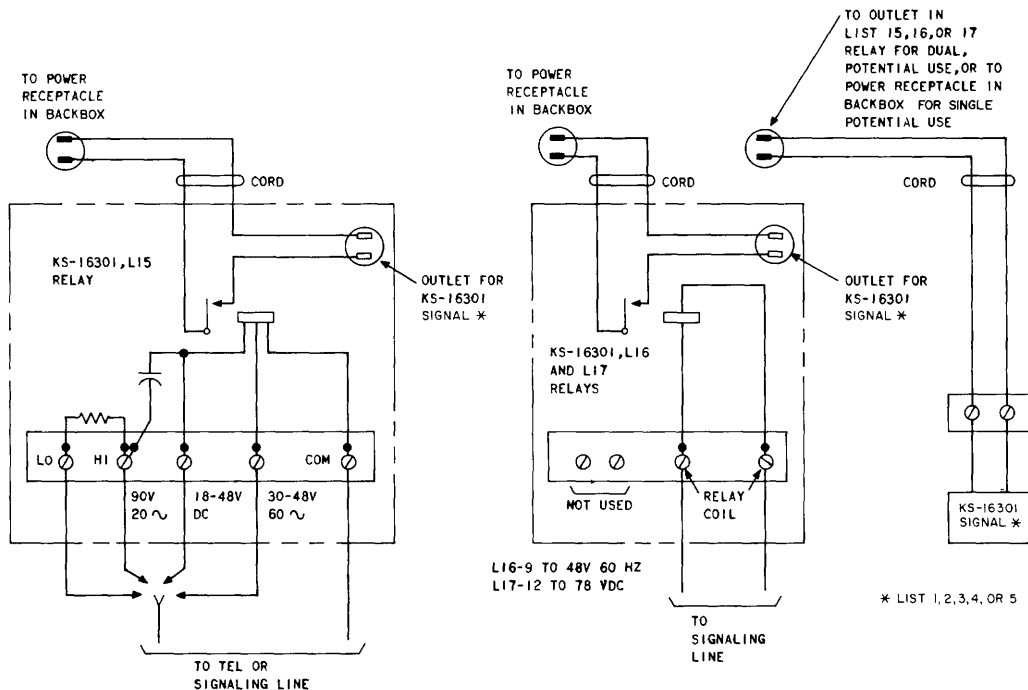

Fig. 21—KS-16301 Signal and Relay
6.01 Connections for KS-16301 signals and relays are shown in Fig. 21.